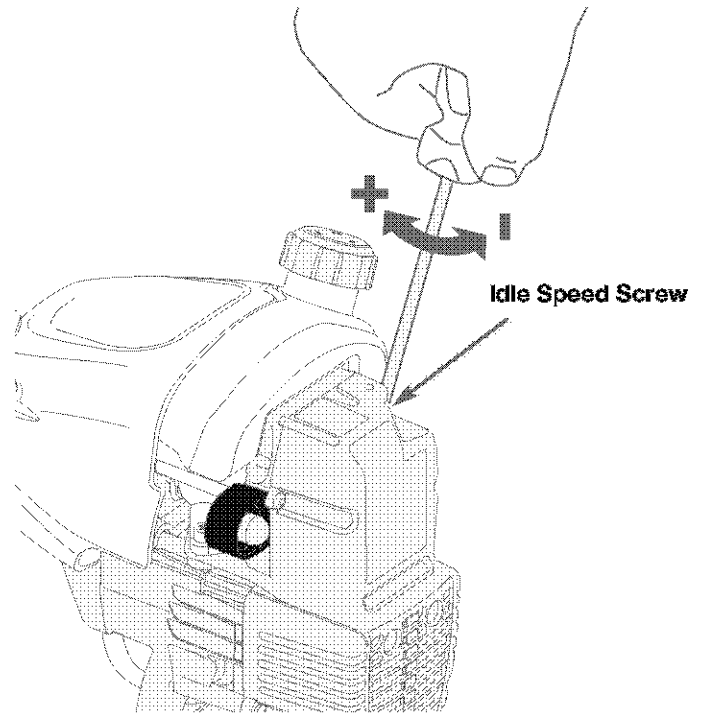

Fig. 28
The idle speed of the engine is adjustable through the Air filter/Muffler cover (Fig. 28).
2. Release the throttle trigger and let the engine idle. If the engine stops, insert a small Phillips or flat blade screwdriver into the hole in the air filter/muffler cover (Fig. 28). Turn the Idle speed screw in, **clockwise**, 1/8 of a turn at a time (as needed) until the engine idles smoothly.